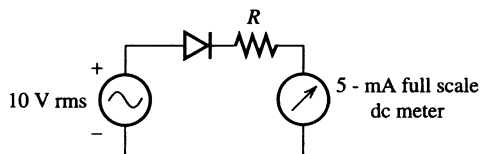

Figure P3.22
3.22. Figure P3.22 shows an ac voltmeter. Assume that the diode is ideal. Suppose that the meter reads full scale when the average current is 5 mA. Assume that the resistance of the meter is negligible. For what value of R will full scale correspond to an ac voltage of 10 V rms? (*Hint: The average value of a half-wave rectified sine wave is the peak value divided by π .*)